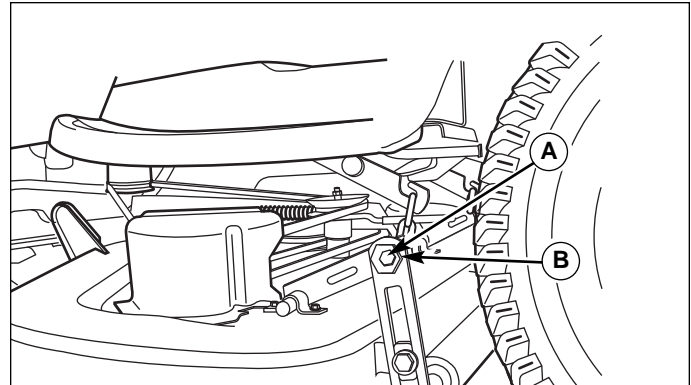

Figure 8. Leveling The Mower Side-to-Side Eccentric Nut Models
5. See Figure 8. Loosen the outside nut (A). Turn the eccentric nut (B) to raise or lower left-hand side of mower. When mower is level, hold the eccentric nut while tightening the outside nut.